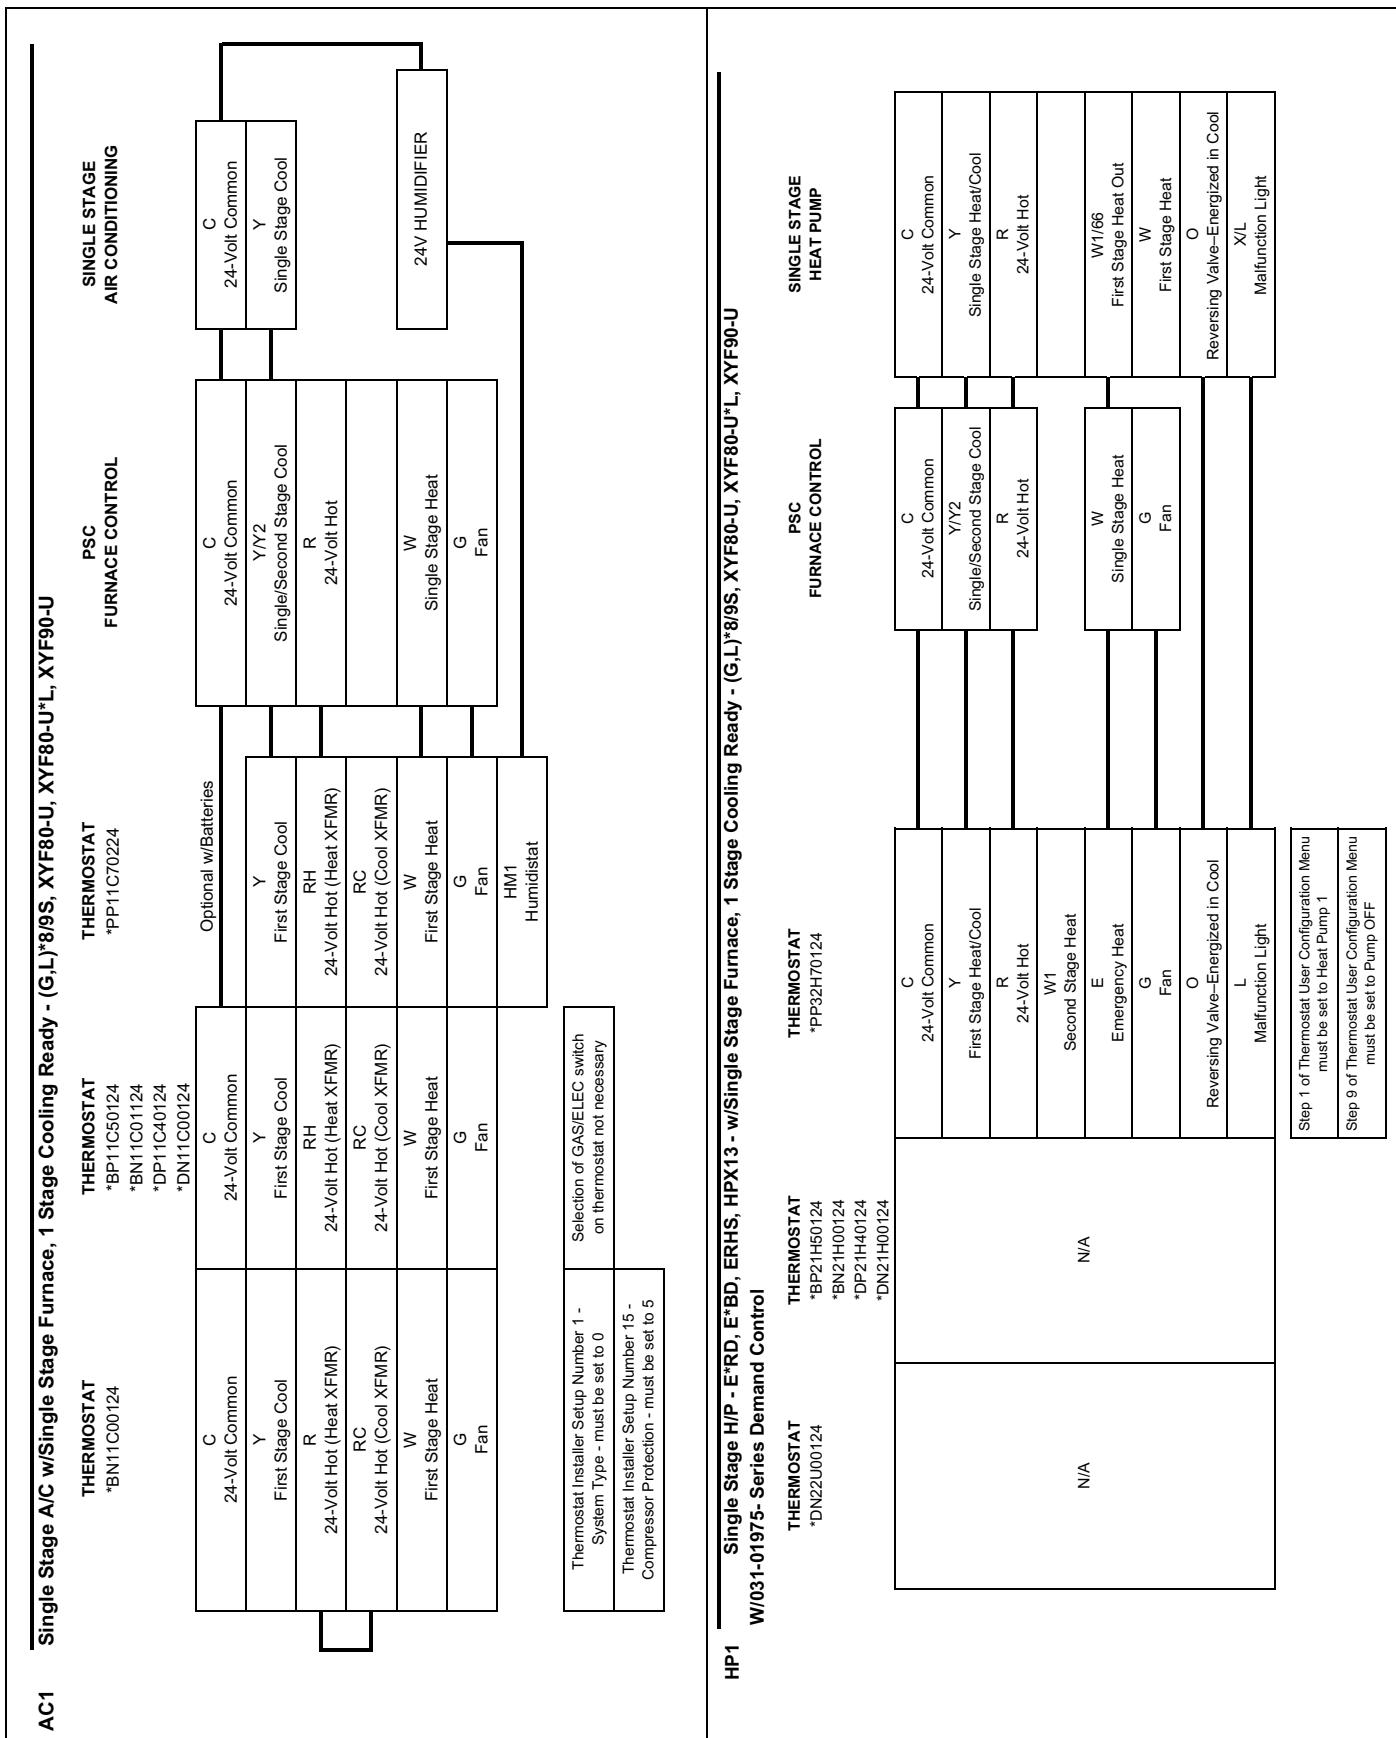

FIGURE 5: Thermostat Chart
2. Remove the screws retaining the junction box cover. Route the power wiring through the opening in the unit into the junction box with a conduit connector or other proper connection. In the junction box there will be three wires, a Black Wire, a White Wire and a Green Wire. Connect the power supply as shown on the unit-wiring label on the inside of the blower compartment door or Figure 5. The black furnace lead must be connected to the L1 (hot) wire from the power supply. The white furnace lead must be connected to neutral. Connect the green furnace lead (equipment ground) to the power supply ground. An alternate wiring method is to use a field provided 2" (5.08 cm) x 4" (10.2 cm) box and cover on the outside of the furnace. Route the furnace leads into the box using a protective bushing where the wires pass through the furnace panel. After making the wiring connections replace the wiring box cover and screws.